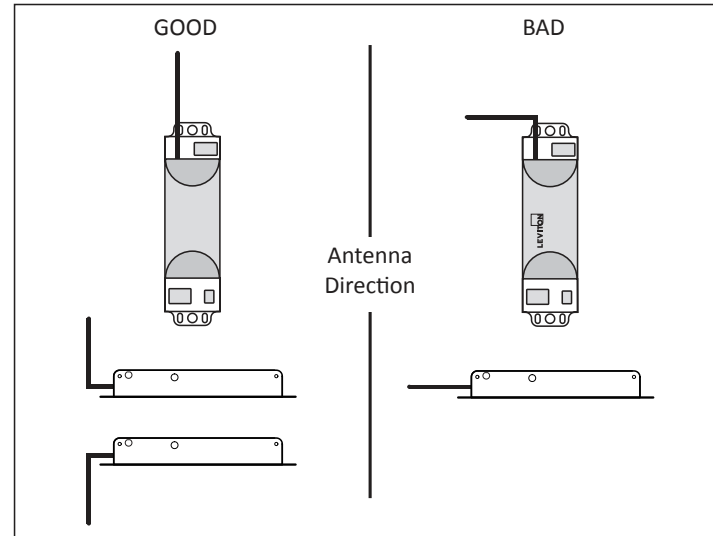

Figure 1 - Antenna Orientation
1. Place LP150-001 in desired location and secure it using #8 sheet metal screws or equivalent. Prior to mounting, make sure the antenna is vertically oriented and located at least 12 inches from any metal structures. (Figure 1)